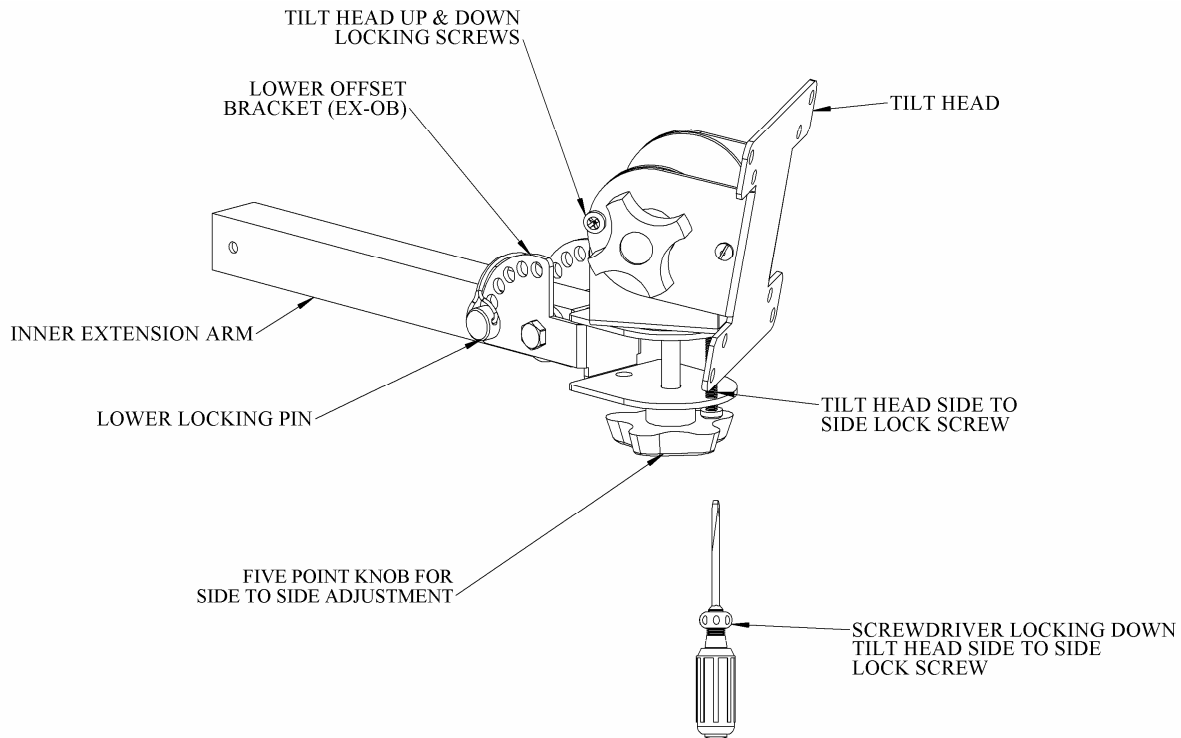

Figure 5 - EX Arm Mount and VESA pan and tilt head adjustment
2. Check that the bottom of the pan and tilt head is flat and that the four point tilt knobs are tightened enough so that the pan and tilt head cannot move easily (See Figure 5).
5. Hold the five-pointed knob so that the threaded shaft is pointing up and it is under the end of the arm. Guide the knob shaft up through the hole in the end of the arm, and through the anti slip washer until it contacts the center of the threaded hole in the bottom of the pan and tilt head (See Figure 5).
2. Slightly loosen the large five point knob below the lower OB bracket just enough so that the pan and tilt head will turn (See Figure 5).
2. Slightly loosen both of the four point knobs on both sides of the pan and tilt head just enough so that the monitor can be moved up and down slightly (See Figure 5).
3. Using a standard Philips type screwdriver, gently tighten the two locking screws on the sides of the pan and tilt head and the single locking screw on the bottom of the pan and tilt head (See Figure 5).
1. First, support the entire weight of the screen. Doing one at a time, carefully loosen the locking screws until only three threads at the end of the screw shaft can be seen protruding through the metal next to the anti-slip washer (See Figure 5).